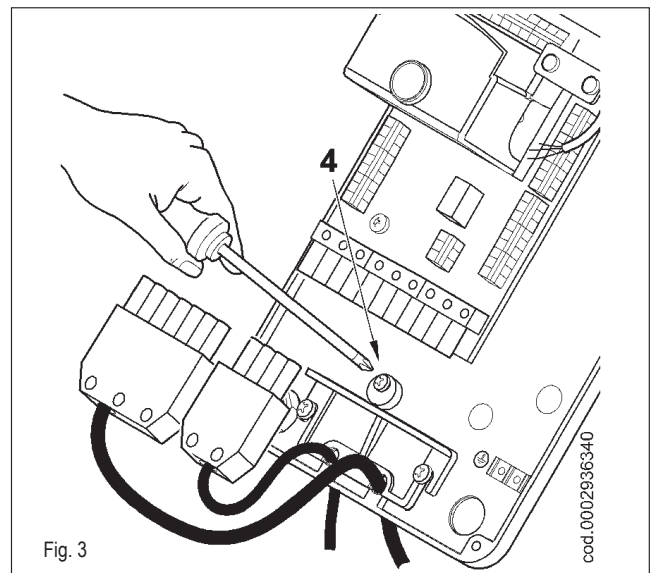

Fig. 3
- Reposition the cable float plate as in figure 3. Turn the cam (4) so that the float exerts sufficient pressure on the two cables, then tighten the screws that fasten the cable float.